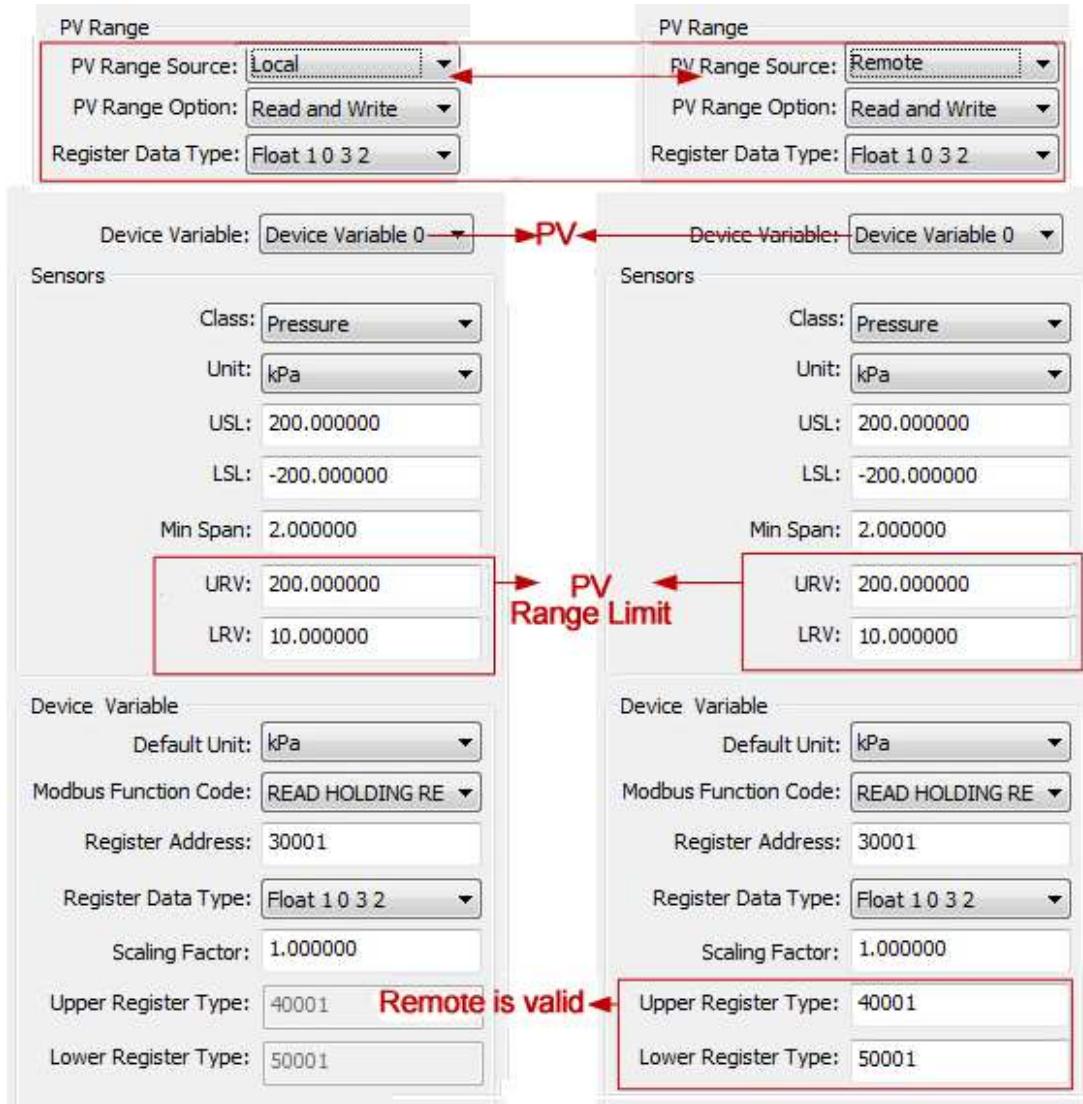

Figure 3.5 PV Range Operation Examples
In the following Figure 3.5, the status, that device variable 0 is mapped into primary variable (PV) under 'Local' and 'Remote' mode, is simply described.